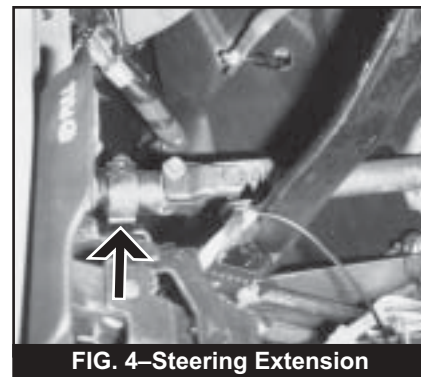

FIG. 4—Steering Extension
14. Install the steering extension to the steering column (It only goes on one way) and fasten using the 3/8" Allen head bolt (Fig. 4).